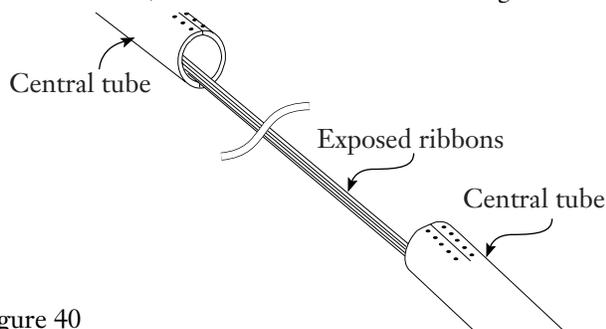

Figure 40
7.20 Follow the UAT II or UAT III instructions to access the ribbons. After using the UAT and Ideal tool on the central tube, the end result will look like Figure 40.